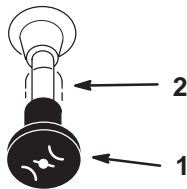

Figure 16
4. Move the choke control to “ON” position before starting a cold engine (Fig. 16).
- After the engine starts, move the choke to “OFF” (Fig. 16). If the engine stalls or hesitates, move the choke back to “ON” for a few seconds. Then move the throttle lever to desired setting. Repeat this as required.